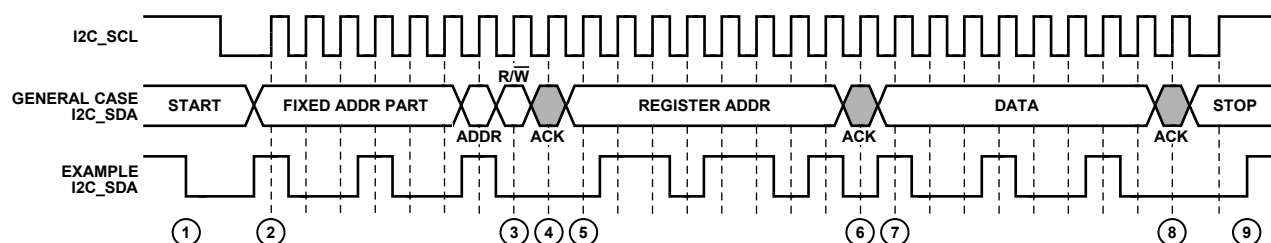

Figure 28. I²C Write Procedure
To write data to the AD8192 register set, an I²C master (such as a microcontroller) needs to send the appropriate control signals to the AD8192 slave device. The signals are controlled by the I²C master unless otherwise specified. For a diagram of the procedure, see Figure 28. The steps for a write procedure are as follows:
3. Send the write indicator bit (0).
- a. Send a stop condition (while holding the I2C_SCL line high, pull the I2C_SDA line high) and release control of the bus to end the transaction (shown in Figure 28).